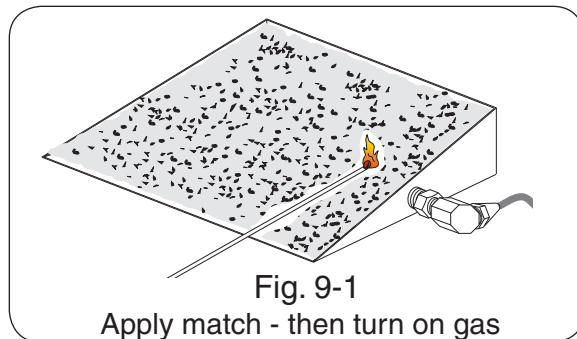

Fig. 9-1
1. Lay a lighted long-stem match on the surface of the embers near the gas inlet (**do not hold the match in your hand**) or use a lighted long-necked butane lighter (Fig. 9-1).
4. Wait approximately five (5) minutes to clear out any gas, and repeat steps 1-3 above.